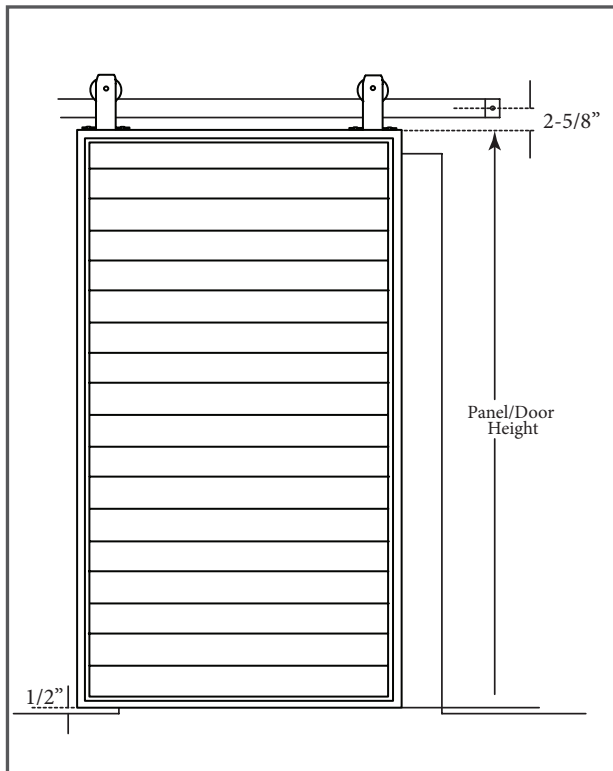

Figure 1
1. To determine where the track should be installed, first measure the height of the door, then add 3-1/8" to the door height. 1/2" will be for the clearance between the bottom edge of the door and the floor. 2-5/8" will be from the top edge of the door to the center of the track. (Figure 1).